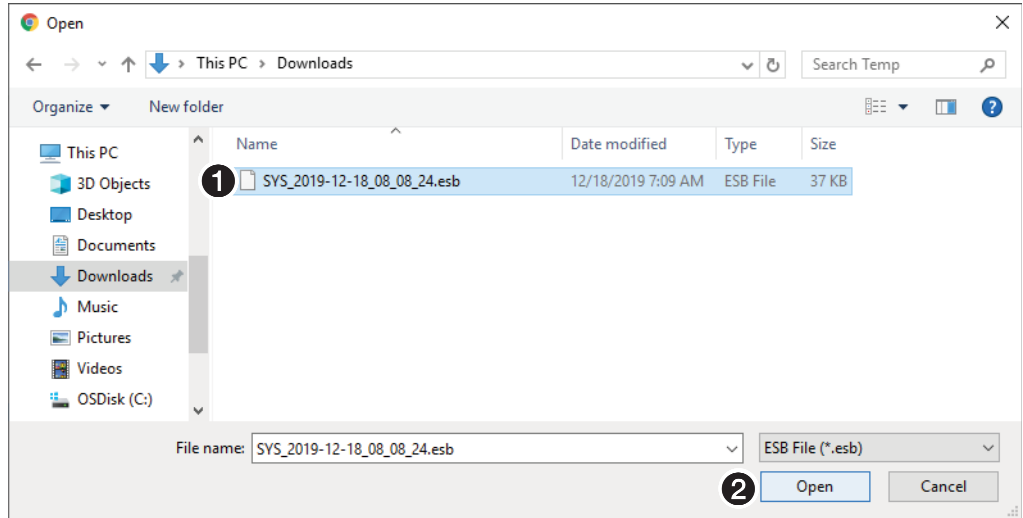

Figure 82. Open Dialog Box
- The Transfer Endpoints to current NAVigator (requires reboot) selection (A) is a system transfer function to replace a NAVigator (see Transferring system configuration to a backup NAVigator on page 80).
Click **Select File** (5). An open dialog box opens (see figure 82 on page 79).
5. Navigate to the folder where the backup file is saved (typically the Downloads folder) (see figure 82, ❶). Select the file.